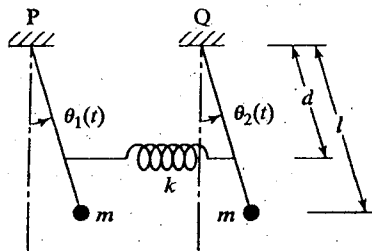

FIGURE 5.27
5.27 Two identical pendulums, each with mass m and length l , are connected by a spring of stiffness k at a distance d from the fixed end, as shown in Fig. 5.27.